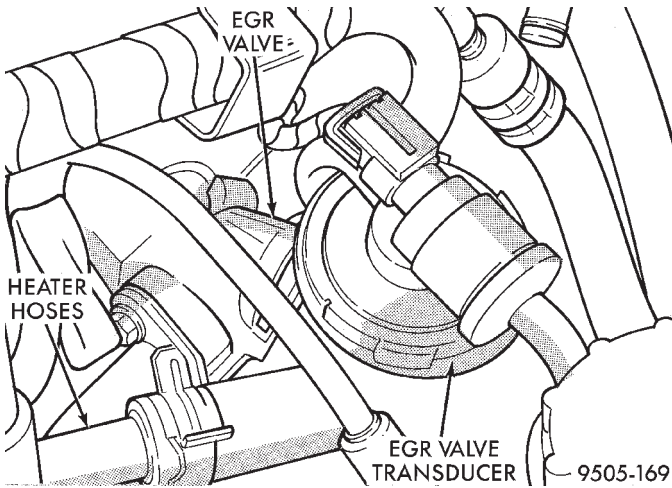

Fig. 58 EGR Valve Transducer Assembly
(6) Remove EGR valve transducer assembly and vacuum hoses (Fig. 58) from the EGR valve. **Valve removal is necessary for required clearance to remove power brake vacuum booster from vehicle and not damage transducer during removal.**
(9) Install the EGR transducer assembly on the EGR valve (Fig. 58). Install the vehicle wiring harness connector (Fig. 58) on the EGR transducer, ensuring the retaining clip is fully engaged with transducer.